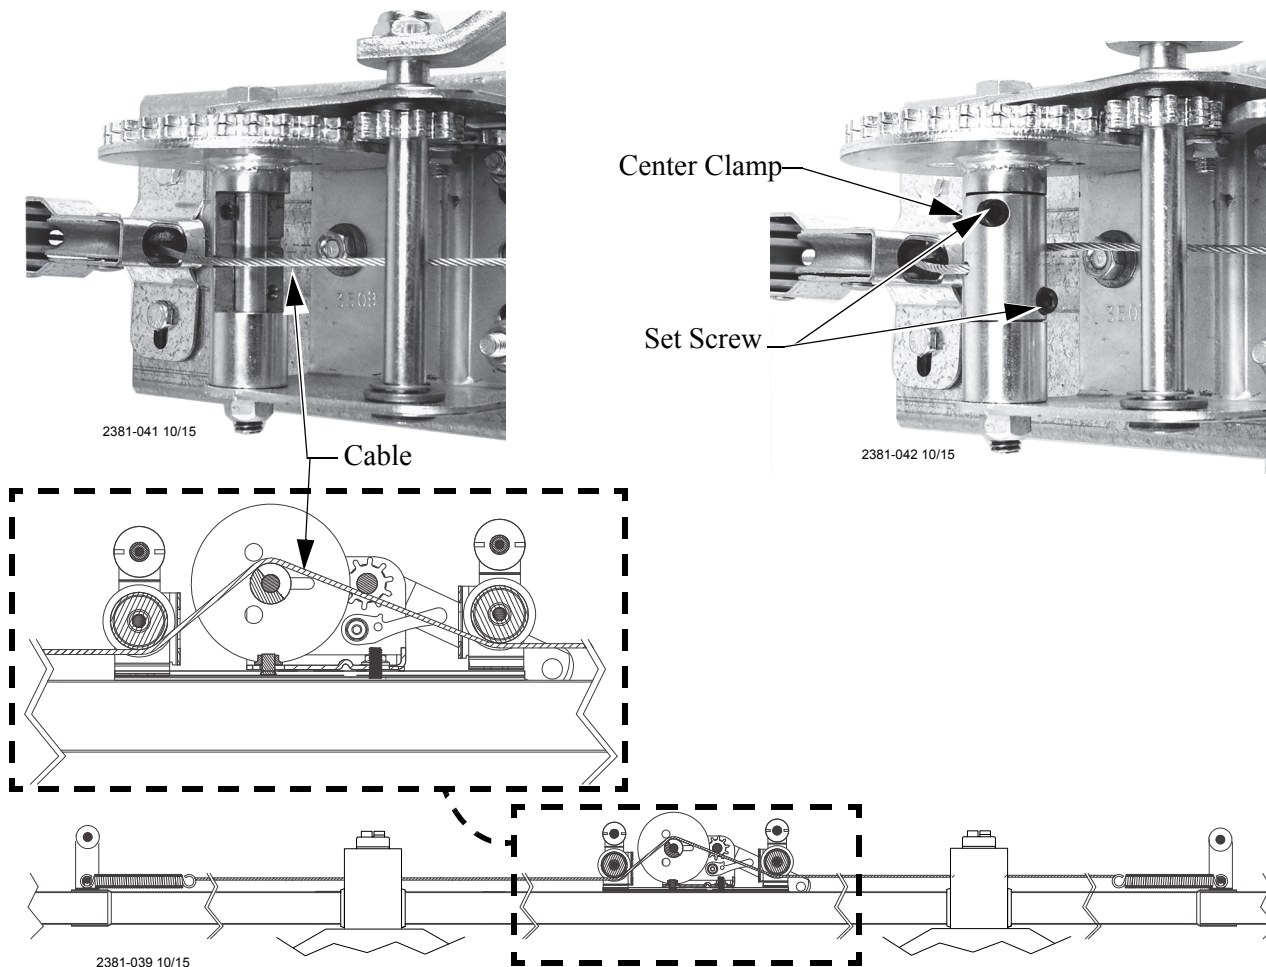

Figure 47. Cable Routing
4. Route the Cable through the Center Hub of the Winch as shown. See **Figure 47**.